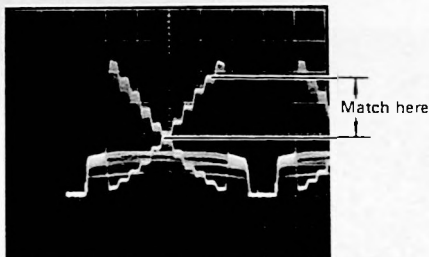

Fig. 4-4-47
- Connect the oscilloscope to TP213 (R) and TP214 (Y_L).
- Overlay the R signal and the Y_L signal on the oscilloscope, and adjust R. TRACKING-3 VR203 so that the R signal matches the Y_L signal in the 8th ~ 9th step of gray scale waveform. (Fig. 4-4-47)